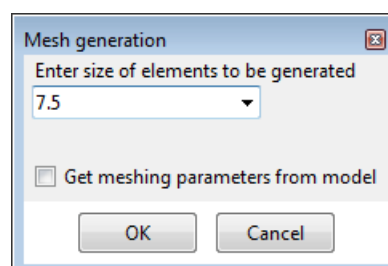

Figure 28. Choosing elements size
- 2 . A window comes up in which to enter the maximum element size of the mesh to be generated (Figure 28). Leave the default value given by GiD unaltered and click **OK**.